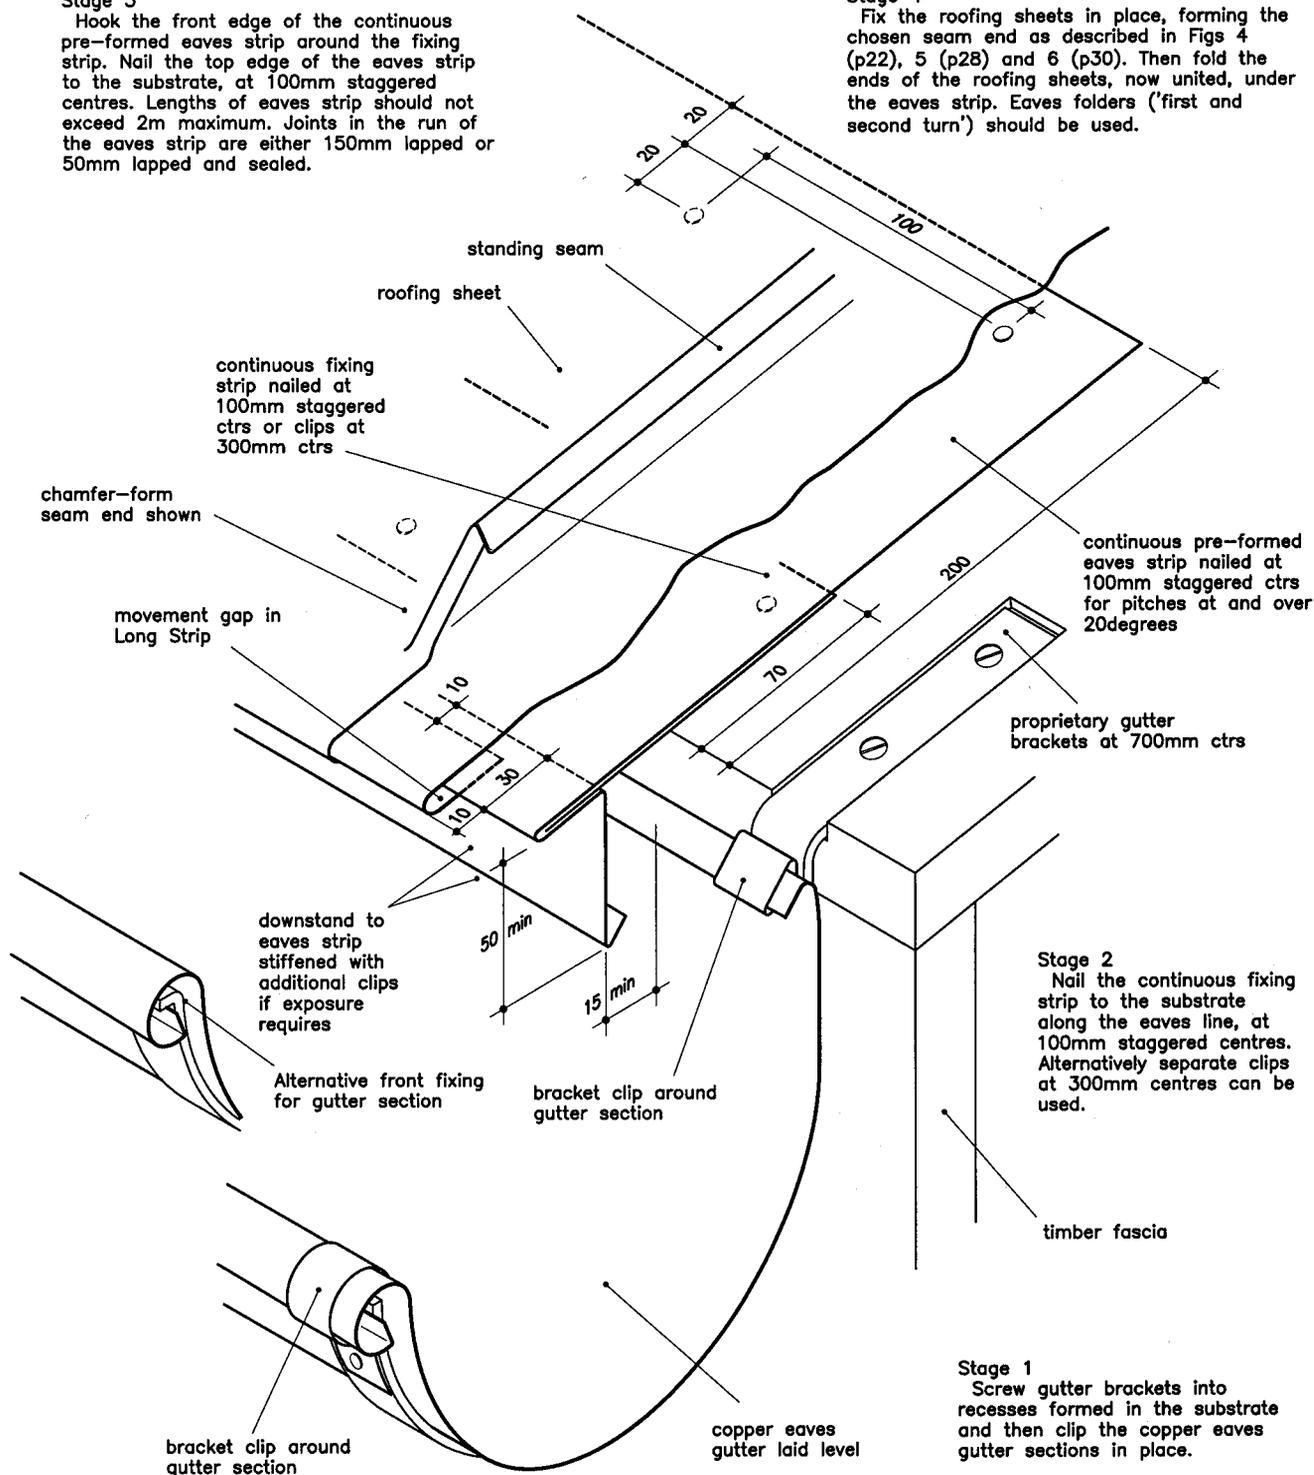

Fig 29 ... at eaves above direct-fixed cladding
* More detail on direct-fixed cladding is given with Fig 29 (p76).
Whatever the pitch the detail at the front edge is the same. The eaves strip is folded back to form a 'hook'. This engages with either individual clips at 300mm centres, or, as is often easier in practice, with a continuous fixing strip, nailed to the substrate at 100mm staggered centres. With some details it is possible to omit these fixings because there is some other well-fixed profile of copper available for the eaves strip to hook around (see Fig 29, p76).